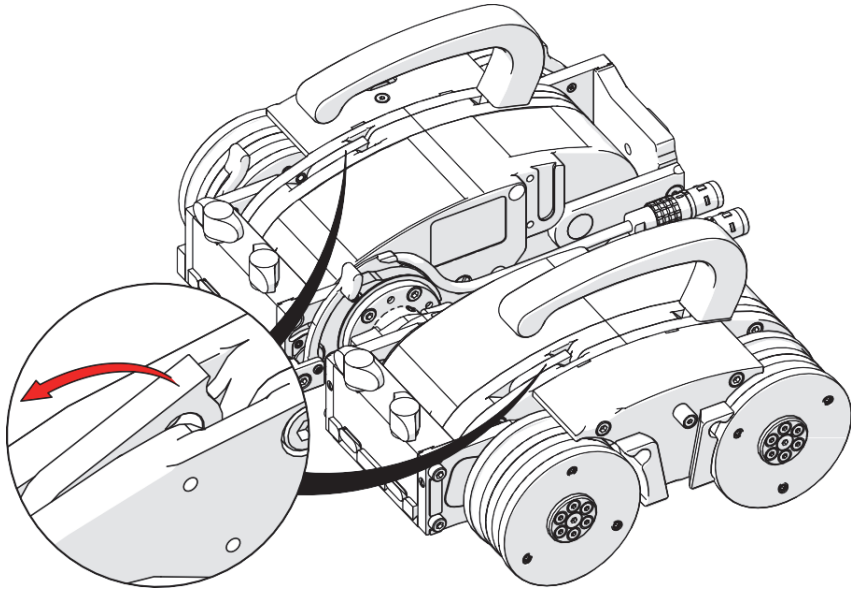

Figure 1-2 Lifting the tether attachment points
1. Lift the two tether attachment points (see Figure 1-2 on page 33).